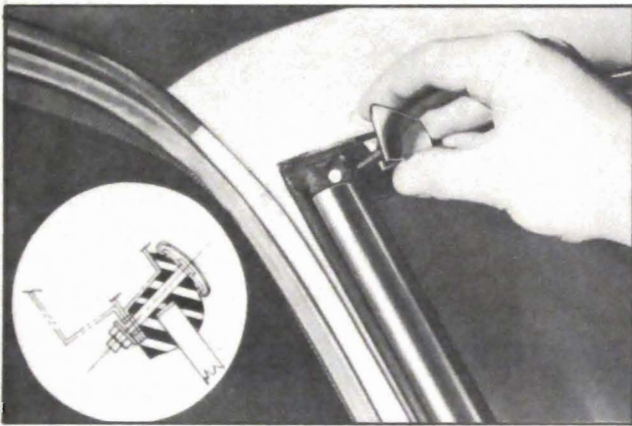

Figure 13-28—Reveal Molding Corner Escutcheon
3. On Style "07" or "69" body, remove reveal molding upper corner escutcheons. These are attached by a bolt running through the glass channel with nut inside the body. See figure 13-28.
11. On *Style "07" or "69"* body, seal around bolt holes and bolts with 3-M Weatherstrip Adhesive and install reveal molding upper corner escutcheons. See figure 13-28.